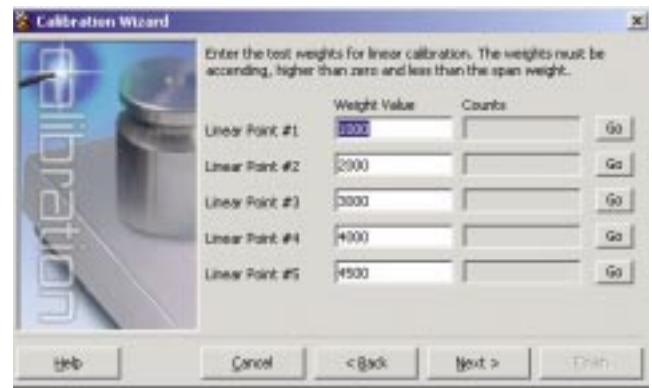

Figure 4-9. *iRev Linear Calibration Display*
7. If performing a multi-point linear calibration, up to five other calibration weight values can be entered on the display shown in Figure 4-9. The weights must be in ascending order and must not include zero or the span weight. Enter the weight values and click the *Go* button to calibrate each point.